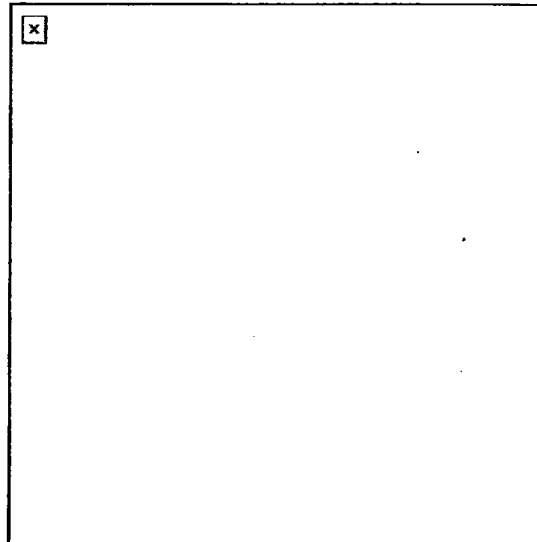
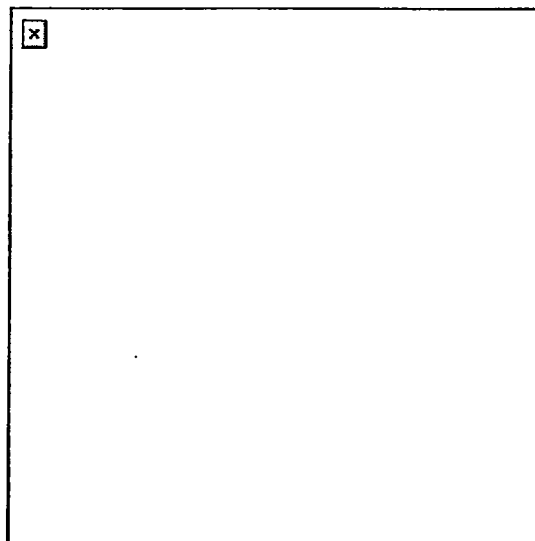
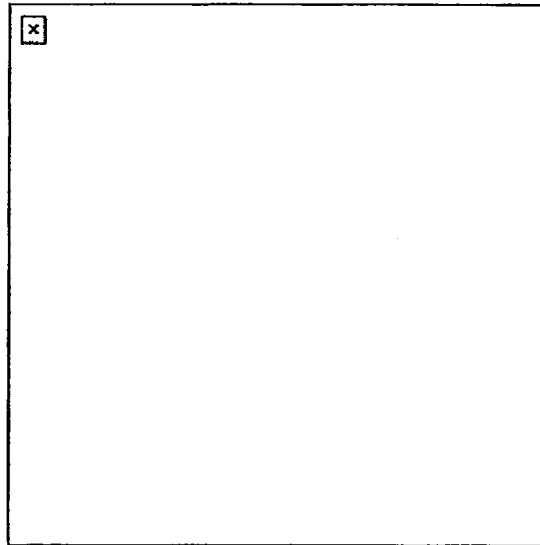

Figure 1. Seated firing position, legs extended.
Figure 2. Seated firing position, legs crossed.
Figure 3. Seated firing position, legs braced.
- (1) Legs extended. Extend your legs under the tripod (Figure 1).
- (2) Legs crossed. Cross your legs and place your elbows on the inside of your thighs for support when firing the weapon (Figure 2).
- (3) Legs braced. Extend your legs, brace them on the trail legs of the tripod, and place your elbows on the inside of your thighs for support (Figure 1, Figure 2, and Figure 3).